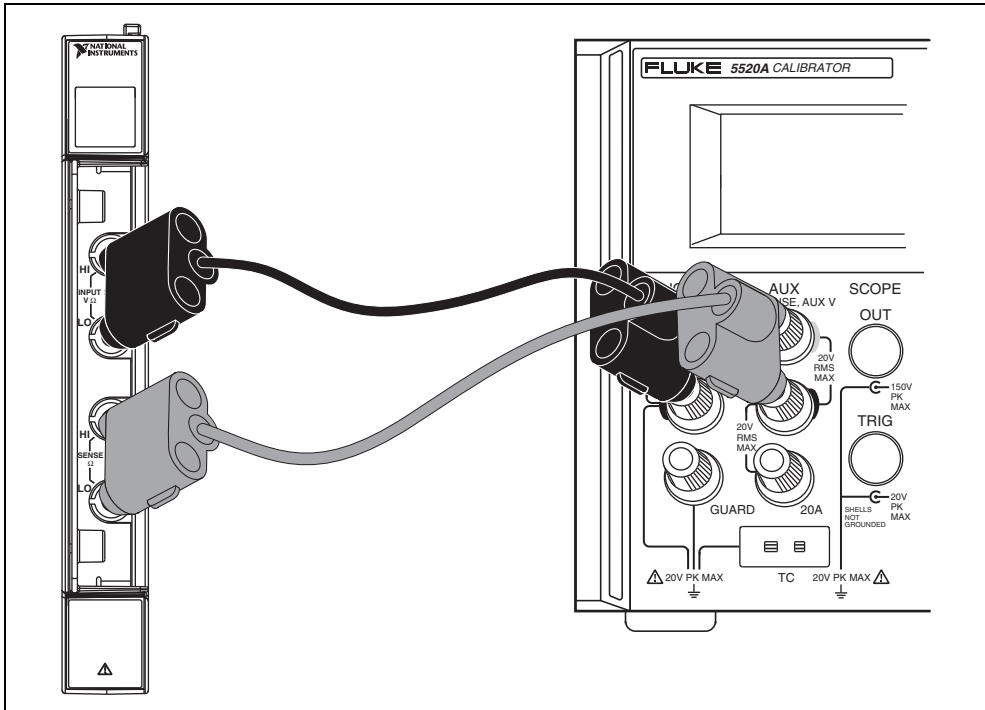

Figure 2. CAL-4353 to Fluke 5520A Calibrator Connections
1. Using banana-jack terminated copper wire, connect the positive and negative terminals of the resistance calibrator to the INPUT V Ω HI and LO inputs of the CAL-4353. Also connect the SENSE Ω HI and LO terminals of the CAL-4353 to the Sense HI and LO terminals of the resistance calibrator while referring to Figure 2.
- Using banana-jack terminated copper wire, connect the positive and negative terminals of the INPUT V Ω HI and LO terminals of the CAL-4353 to the Fluke 5520A or equivalent calibrator. Connect the SENSE Ω HI and LO terminals of the CAL-4353 to the calibrator Sense HI and LO terminals while referring to Figure 2.